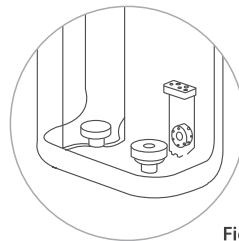

Figure 13
- (3) After cleaning, insert the floating ball into the groove. Then put on the floating ball silicone cover and filter screen covers tightly, as shown in the figure. **(Figure 13)**